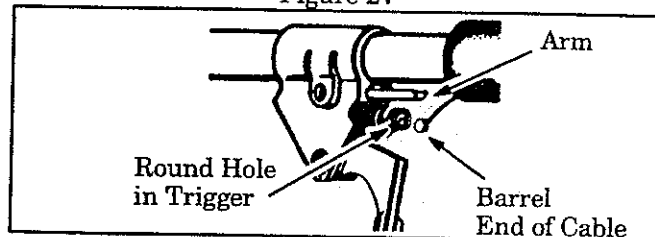

Figure 28
2. Hold throttle trigger away from the foam grip and remove the barrel end of the throttle cable from the throttle trigger. Figure 28.